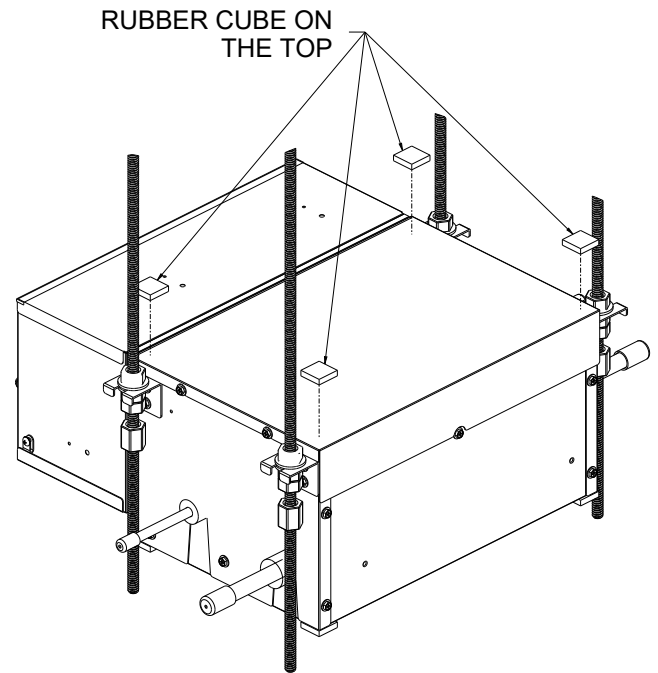

FIGURE E.1
- 1.1 Remove the adhesive liner, and attach the rubber pads (Item 13) on the top and bottom surfaces of the **Valve Box** at each of the 4 corners as indicated in Figure E.1 and E.2.